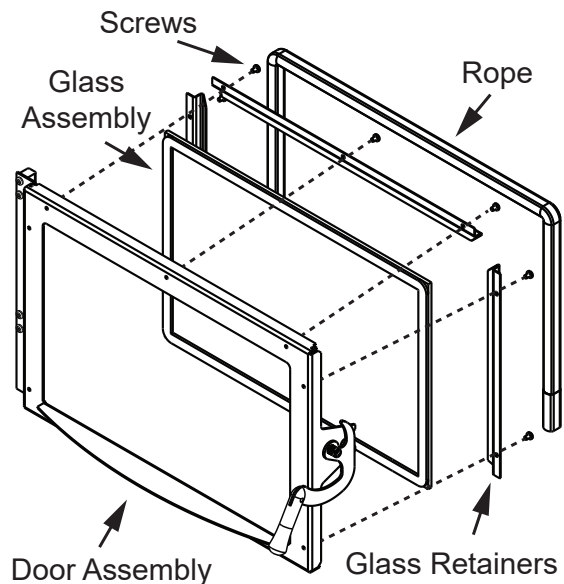

Figure 29.2
9. Add rope into crevice as shown below in **Figure 29.2**.